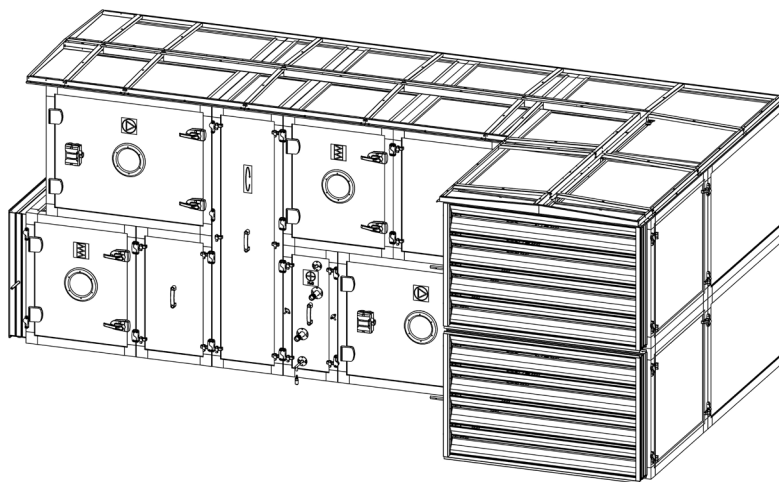

Figure 9.3
4. Attach standard roof supports in accordance with clauses 1, 2 and 3 of Chapter 4, after mounting the corner section supports, as shown in Figure 9.3.